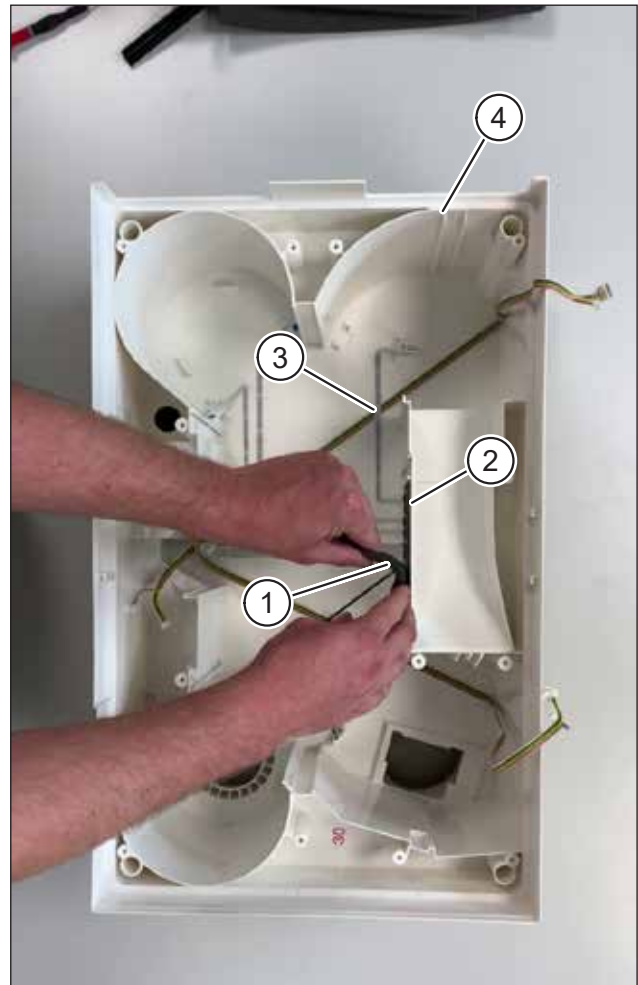

Fig. 8: Remove the distributor PCB
- ▶ Remove the holder (item 1 in Fig. 8) over the distributor PCB.
- ▶ Detach the plug-in connections from the distributor PCB (item 2 in Fig. 8).
- ▶ Remove all cables and wires (item 3 in Fig. 8) from the housing (item 4 in Fig. 8).